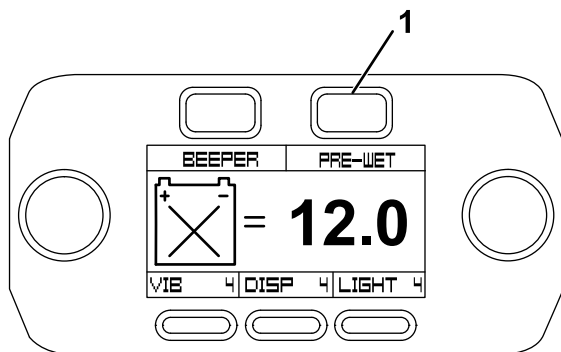

Figure 41
2. Press the Pre-Wet button (Figure 41).